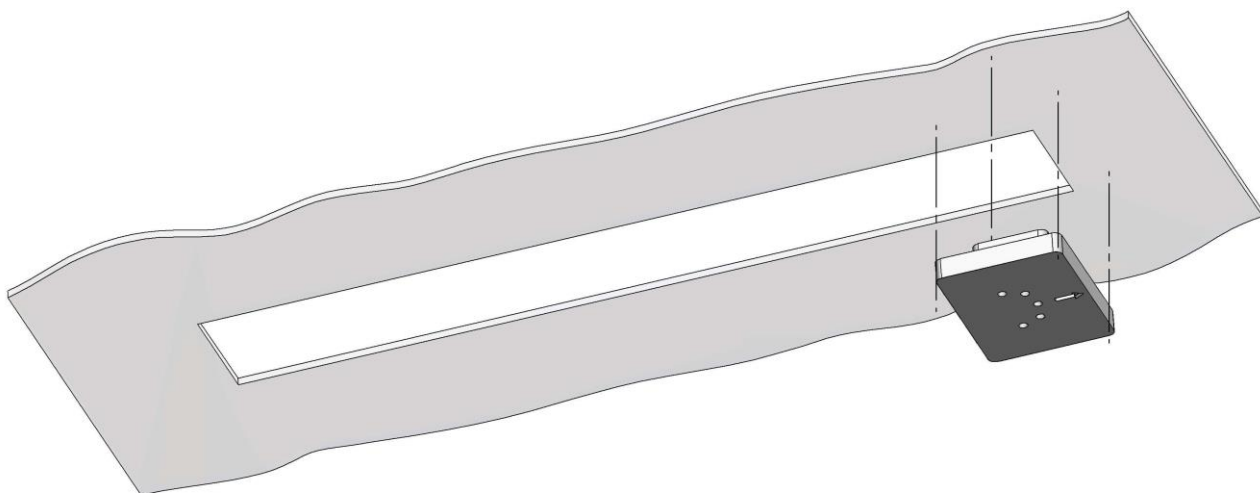
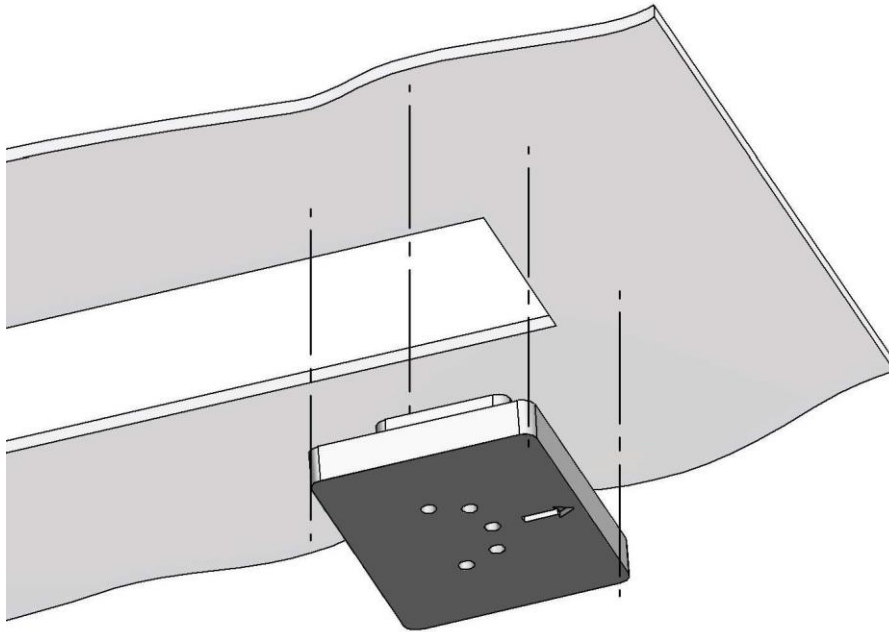

Fig.2
Fig.2a
3. Put a wooden block protecting the contents of the cardboard at each of the two ends of the hole, so that the arrow printed on it points to the outside of the hole (**Fig.2, Fig.2a**).